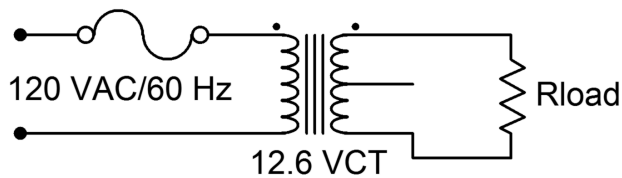

Figure 3
- This section uses the 120 VAC line. Treat it with the caution it deserves. Connect the circuit of Figure 3 leaving R_{load} unconnected. Measure the secondary voltage with the DMM (AC Volts). Record the value in Table 3 under "Unloaded".